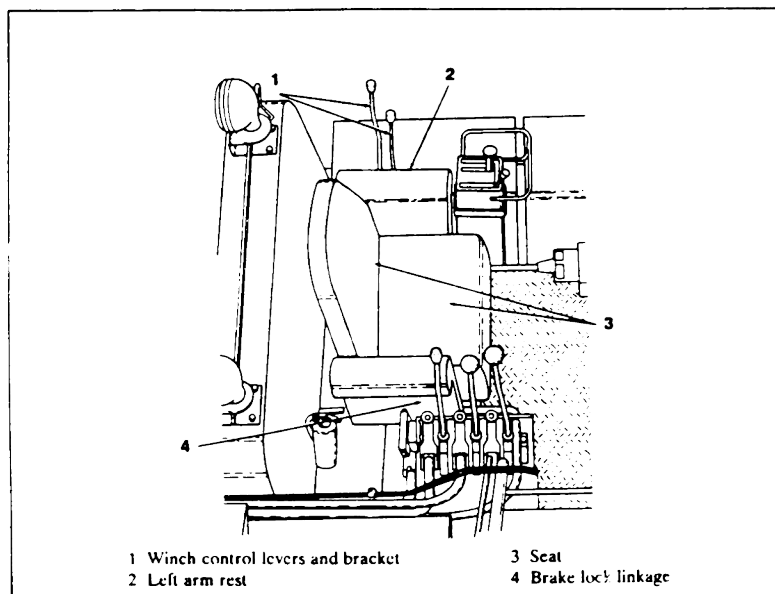

FIGURE 15. SEAT FRAME REMOVAL
Step 4. Remove the seat frame (Figures 15 and 16) as follows: